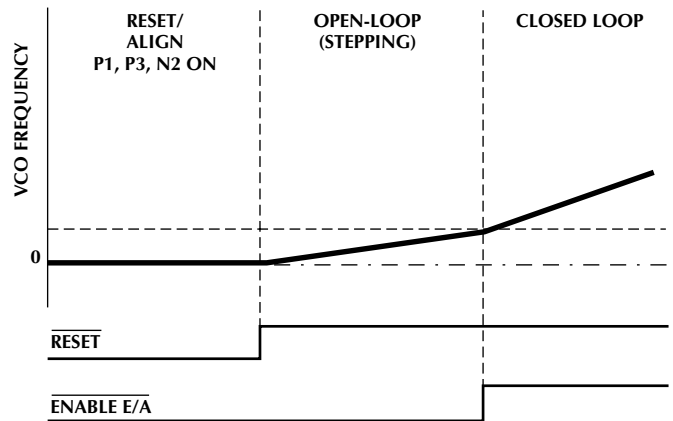

Figure 6. Typical Start-up Sequence.
Step 1: The IC is held in reset (state R) with full power applied to the windings (see figure 6). This aligns the rotor to a position which is 30° (electrical) before the center of the first commutation state.